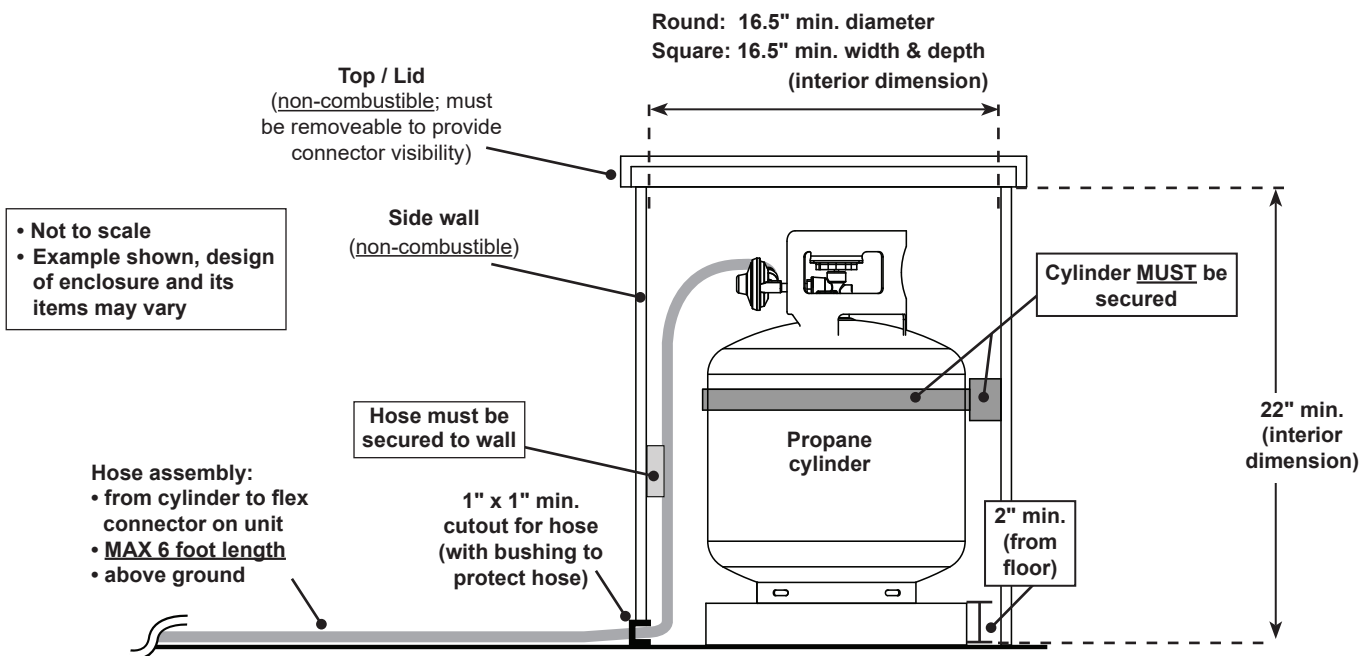

Fig. 11-1 Propane cylinder enclosure specifications (side view)
The enclosure can be constructed according to your individual preference, while following all guidelines found in this manual. **The enclosure MUST (see Fig. 11-1):**
- have the minimum dimensions specified in Fig. 11-1
- meet all requirements found in Fig. 11-1 and the following sections